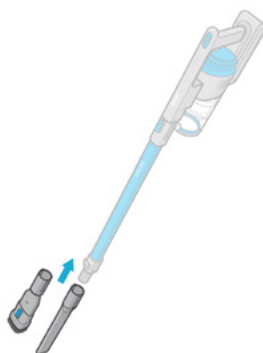

Figure 2.3
3. Optionally, leave the stick attached to the vacuum body and press the vacuum head release button to remove the vacuum head. Then, attach the nozzle or brush to the end of the stick [\[Figure 2.3\]](#).